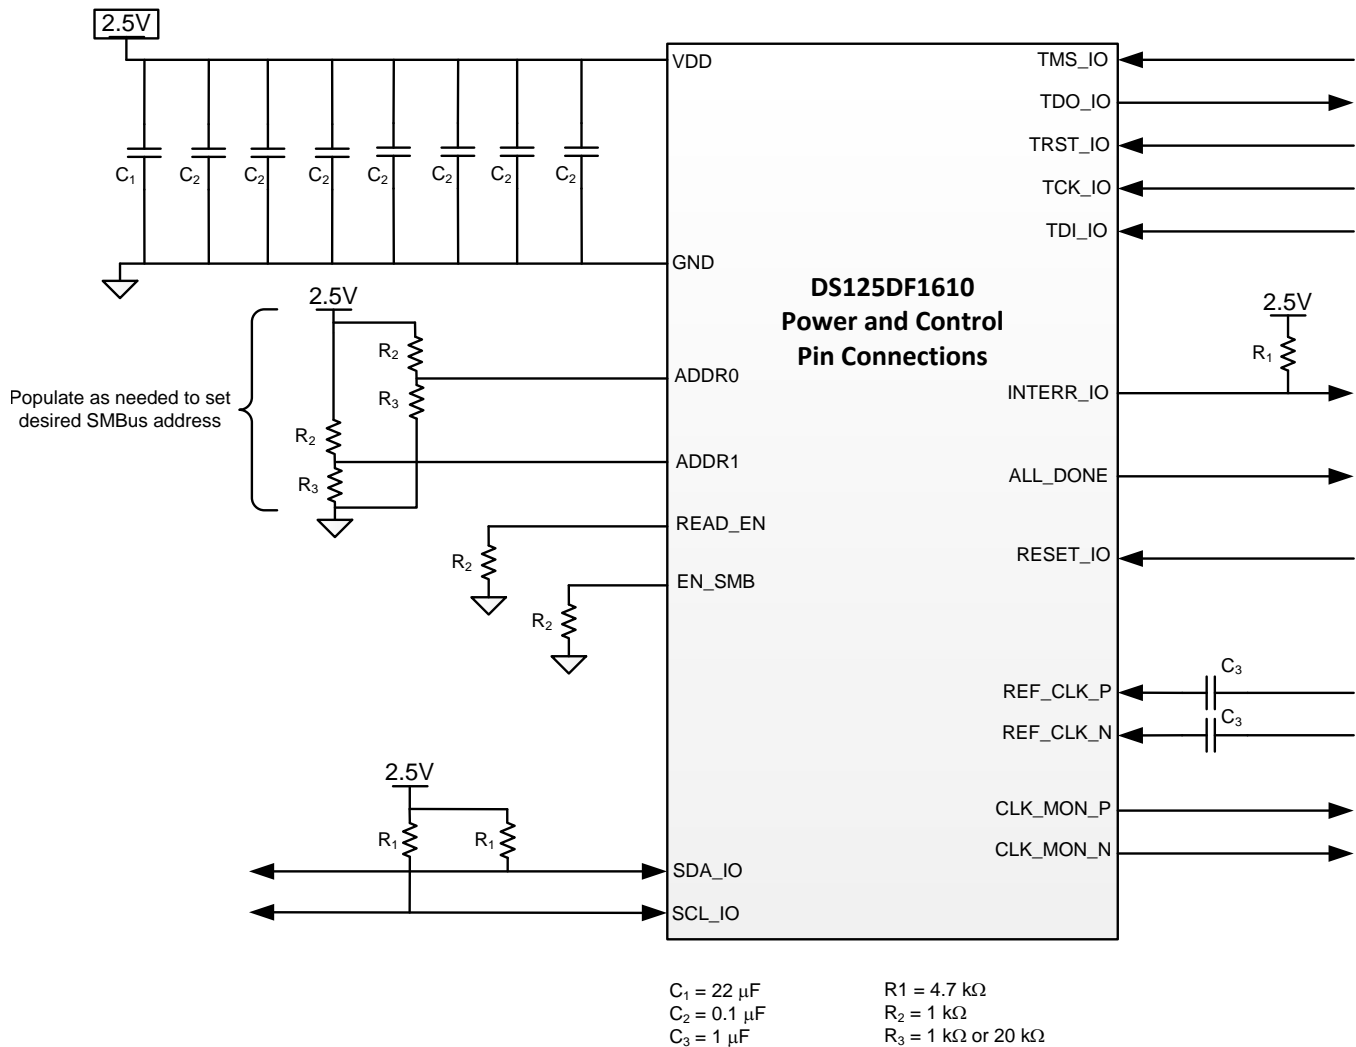
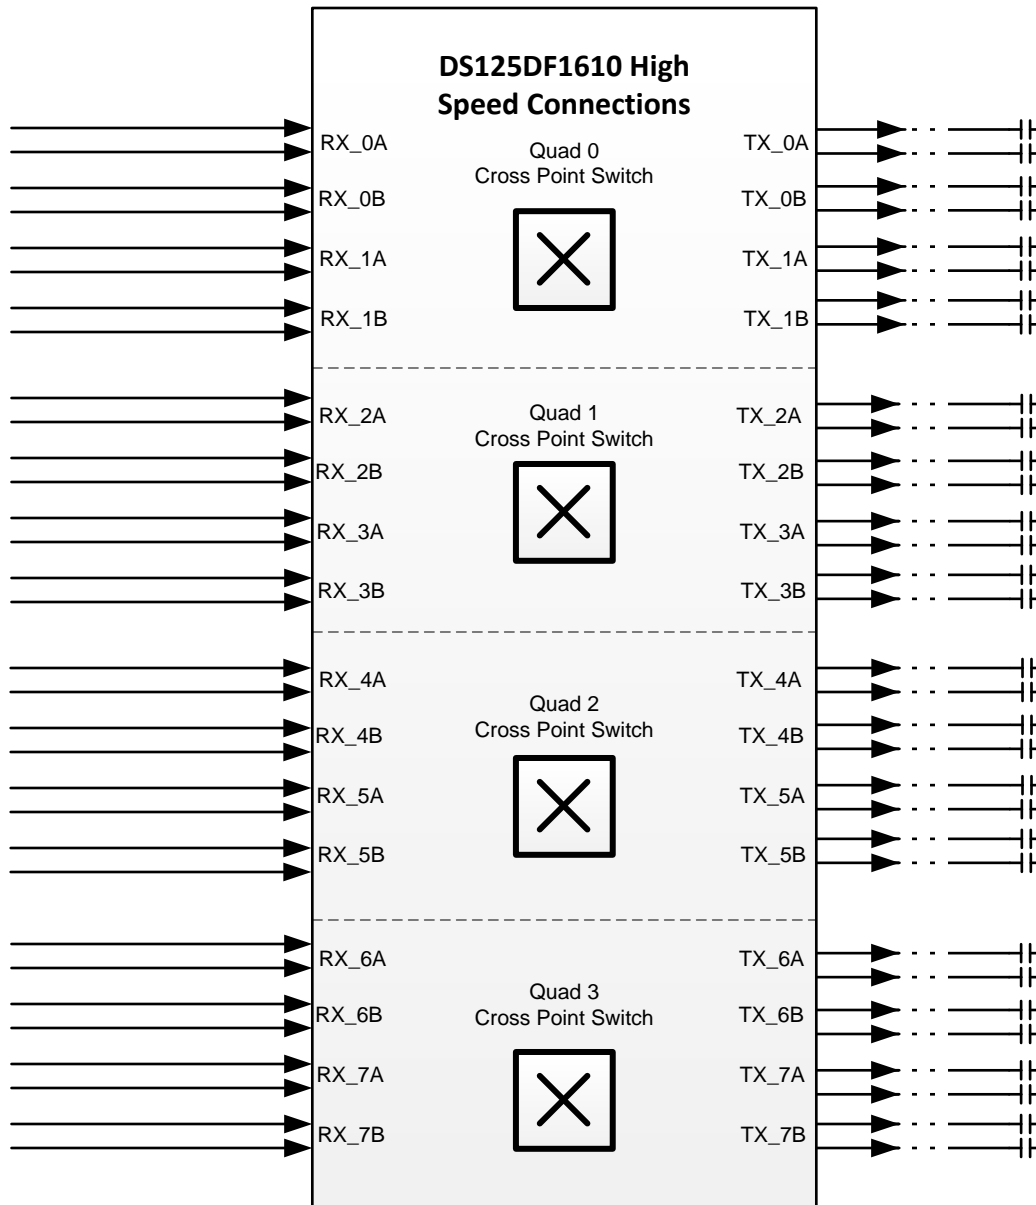

Figure 6. Typical Connection Diagram: Power and Control Pins
Figure 7. Typical Connection Diagram: High Speed Signals
Figure 6 and Figure 7 show a typical application of the DS125DF1610. In these diagrams, the DS125DF1610 is configured for SMBus slave mode programming. Power is supplied to the device through a single 2.5 V plane. The power supply filtering shown in these diagrams may need to be adjusted to accommodate additional system power noise. The SMBus and LVCMOS signals in this example use 2.5 V logic. A differential reference clock for the digital block is applied to the device through 1 μF AC-coupling capacitors. In this example, the high speed signals are connected to the device in groups of four to allow for the system designer to make use of the 4x4 cross point switches. Note that since the device contains AC-coupling capacitors on the high speed receiver inputs, the signals can be directly connected to the device. The transmitter outputs of this device should connect to AC-coupling capacitors placed near the receive inputs of the receiving ASIC.
- Compare schematic against the typical connection diagrams in the datasheet, Figure 6 and Figure 7